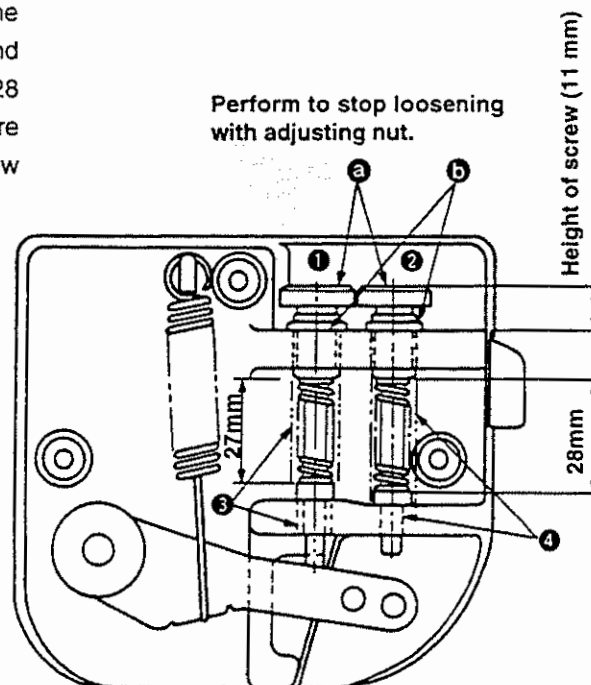

Fig. 2 Pedal sensor B asm.
- On side **2** in Fig. 2, same as side **1**, assemble spring shaft B, return spring B, return pressure adjusting screw and return pressure adjusting nut.
Adjust with return pressure adjusting screw **a** so that the length of spring on side **1** in Fig. 2 should be 27 mm and that the length of spring on side **2** in Fig. 2 should be 28 mm. After the adjustment of height, tighten return pressure adjusting nut **b** so that return pressure adjusting screw **a** should not become loose.